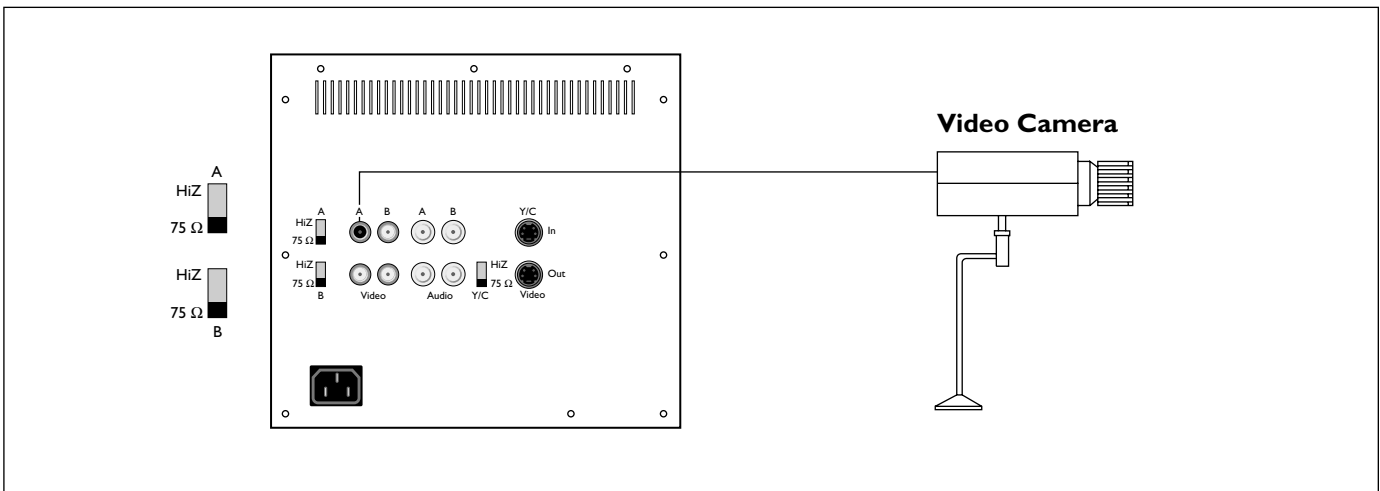

Fig 2 Connecting a Single Monitor
**NOTE:** Brightness and Contrast adjustments are made directly from the front panel using the cursor and adjustment control (▲, ▼, ◀ and ▶) button (Fig 2, Item 2).